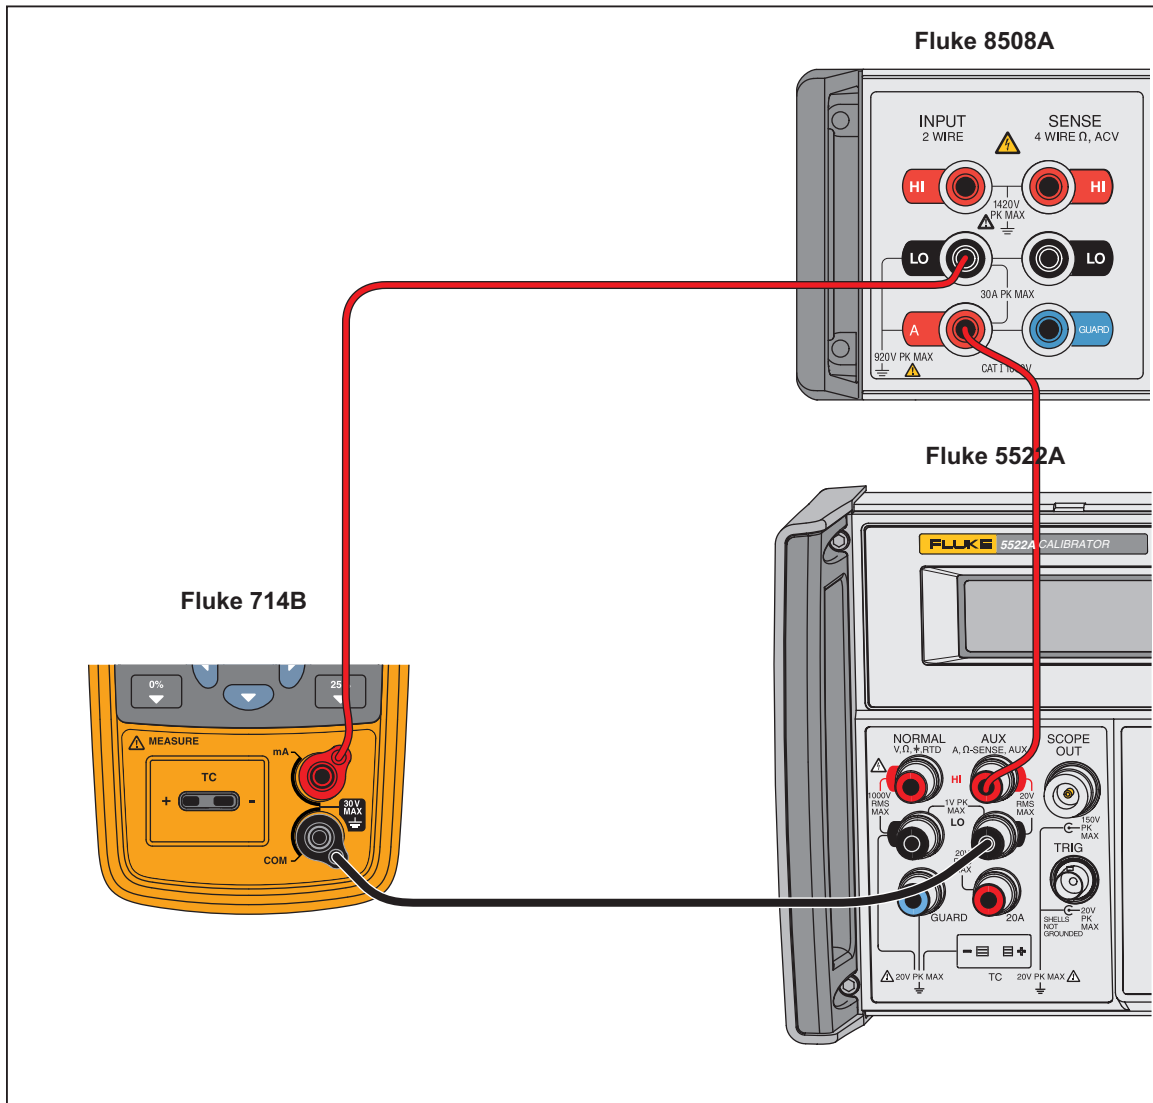

Figure 9. Verify mA Measure
1. Connect the 5522A, 8508A, and 714B, as shown in Figure 9.